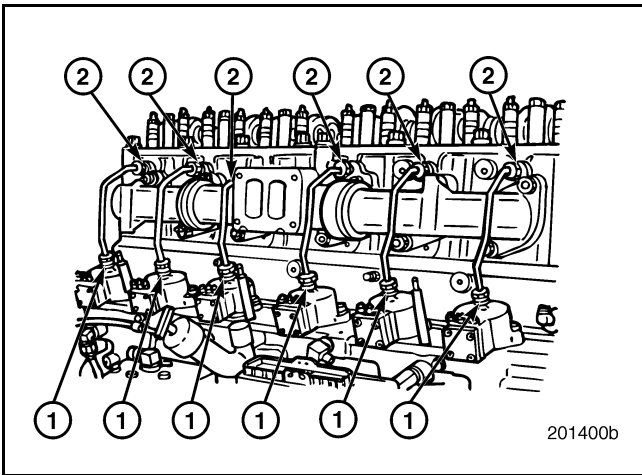

Figure 156 — Fuel Inlet Tube Assembly Removal
3. Loosen the tube line nut at the unit pump for the No. 1 cylinder (Figure 156). Be careful to avoid twisting the line while loosening the nut.